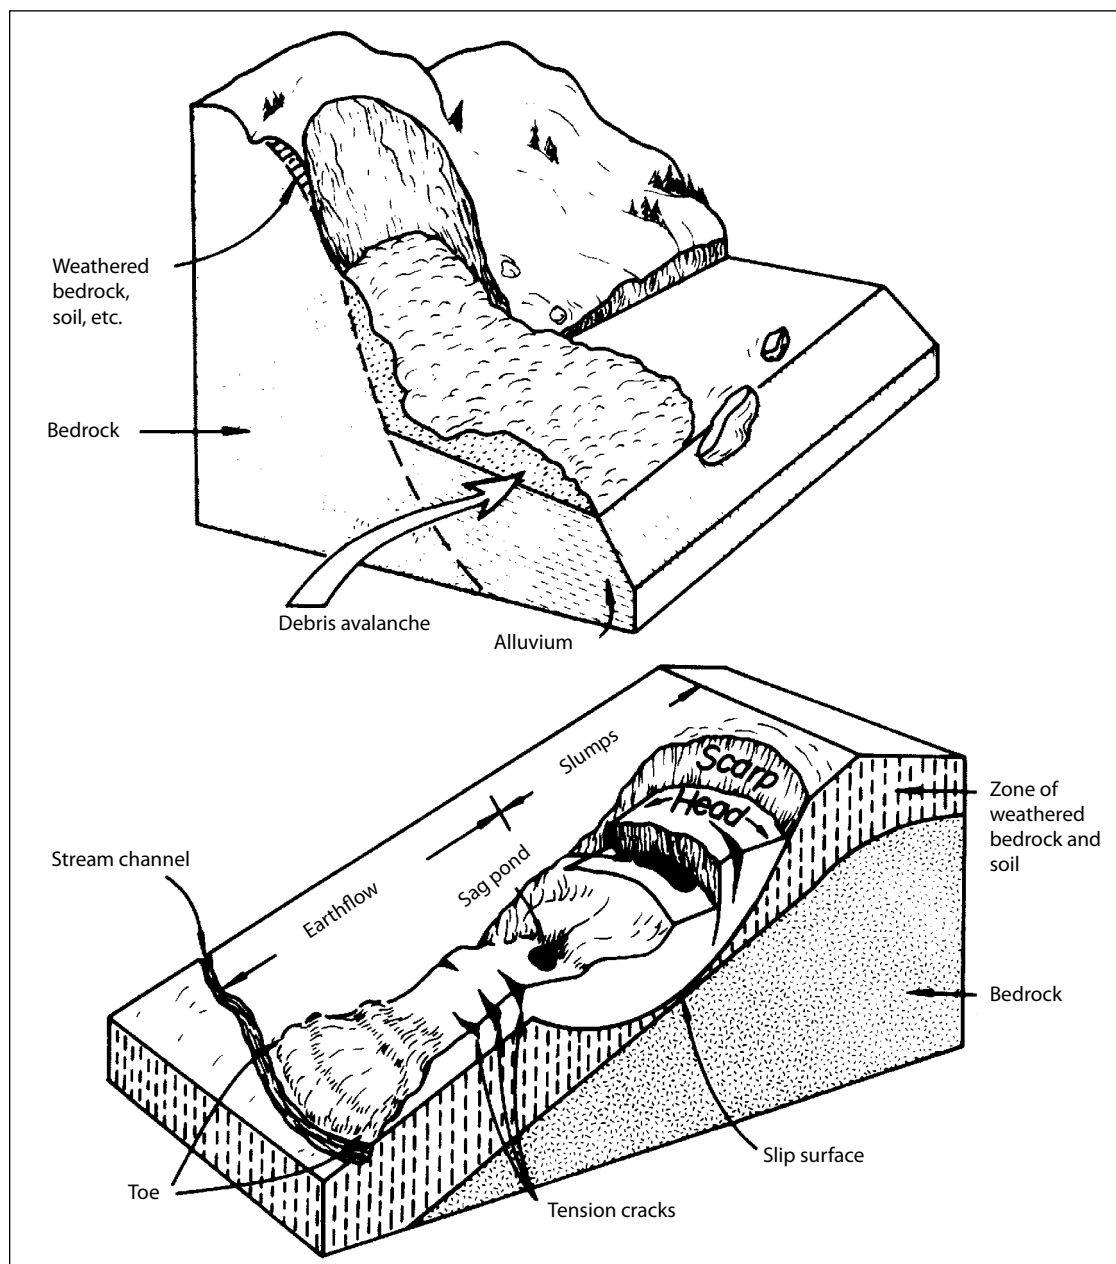

Figure 1. Indicators of slides and slumps
- **Slumps and slides.** Roads on unstable terrain are difficult to deal with during construction and can lead to more extensive problems with slope stability. Indicators of slumps and slide areas are listed in Figures 1 (page 2) and 2.